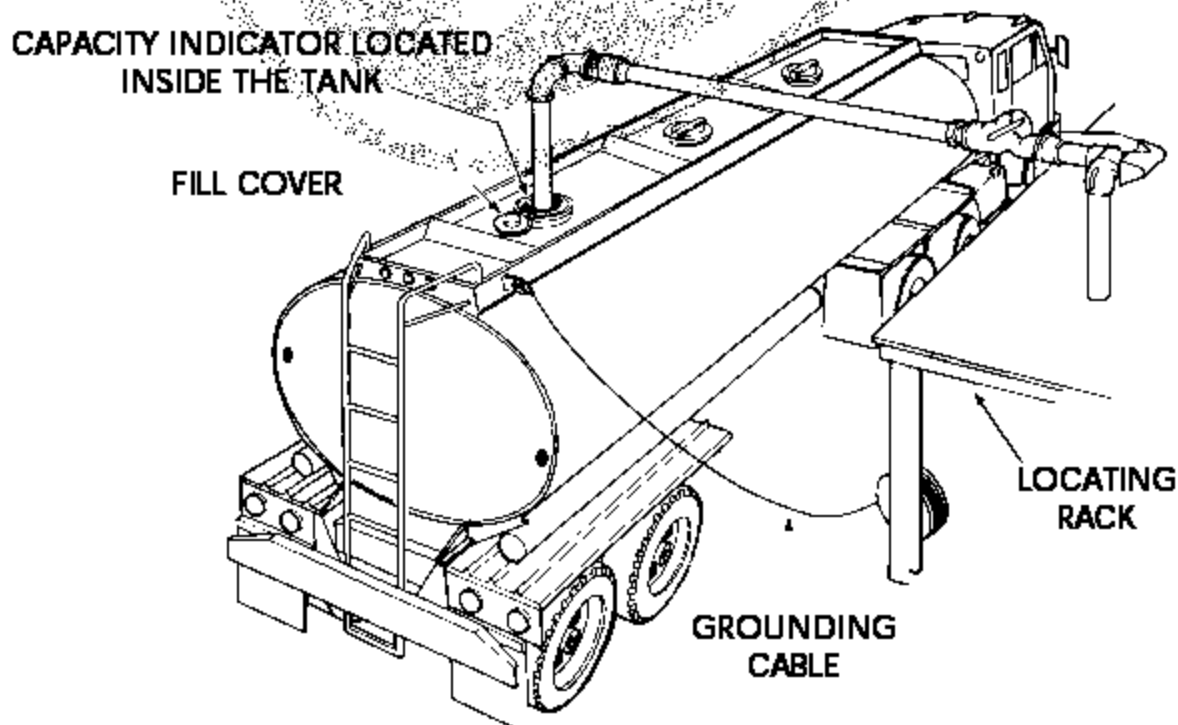

Figure 8. Typical Top Loading Operation
1. Ground the tank trailer (Figure 8).